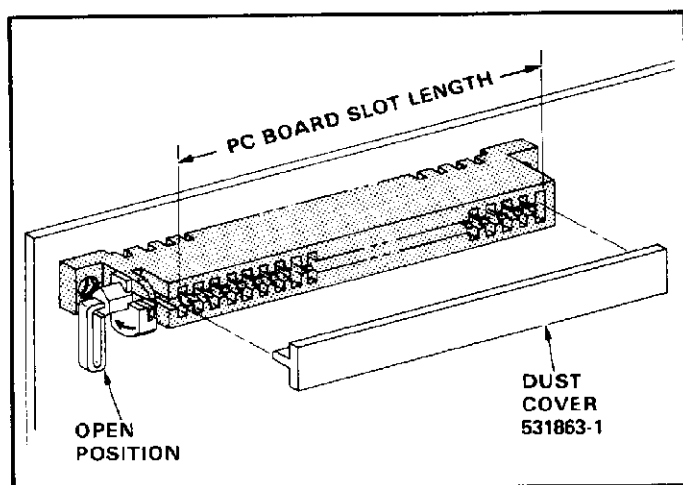

Fig. 12
8. DUST COVER INSTALLATION (Figure 12)